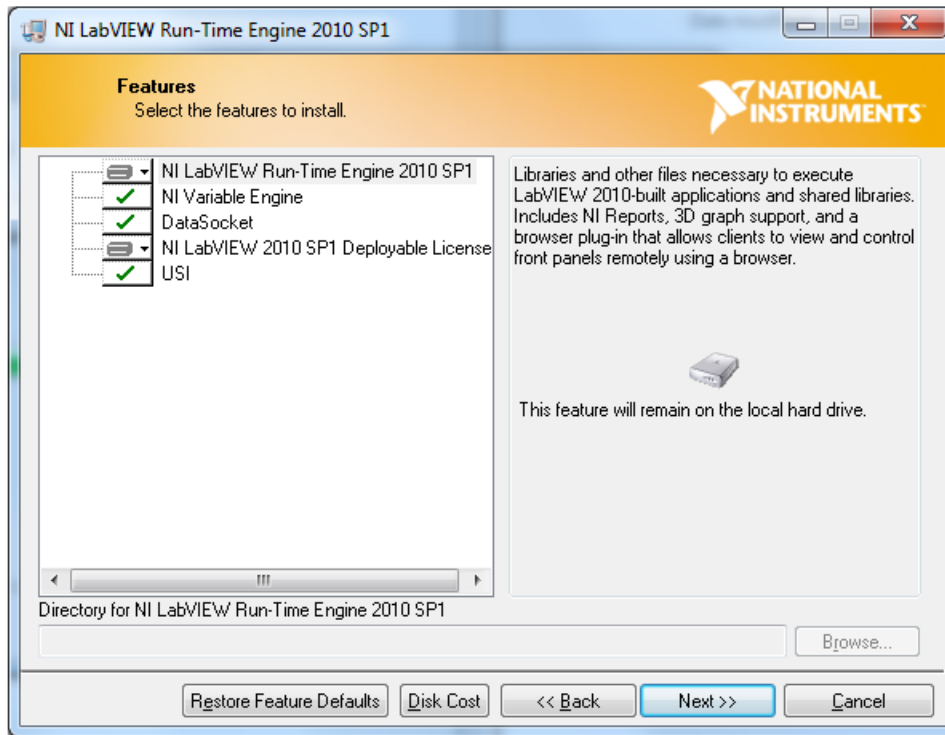

Figure 42. HMC-DAQ GUI Install (LabView Run-time Engine Installation)
9. Press the *Next* button, as in Figure 42.